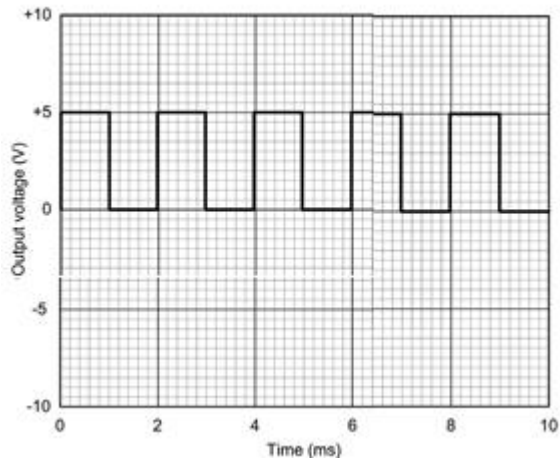

Figure 9.27 See Question 9.15
- 9.15 Design an oscillator circuit that will generate the output waveform shown in Fig. 9.27. Sketch a circuit diagram for the oscillator and specify all component values (including supply voltage). Give reasons for your choice of oscillator circuit.